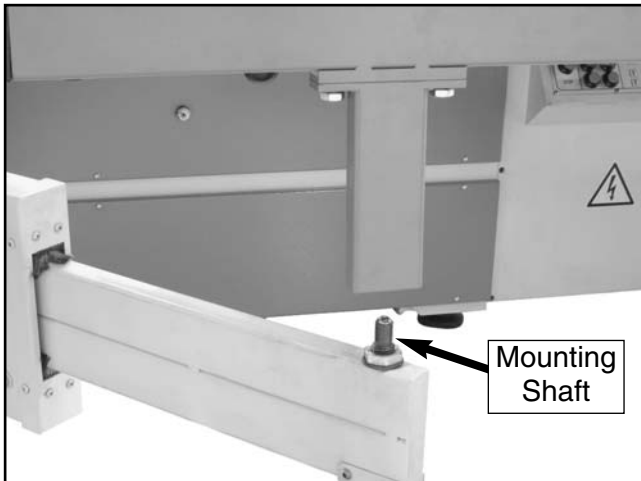

Figure 47. Mounting the crosscut table over the shaft on the brace.
4. Lift the crosscut table and slip the clamp over the bar on the sliding table and set the other end of the crosscut table onto the shaft that protrudes up from the brace (**Figure 47**).